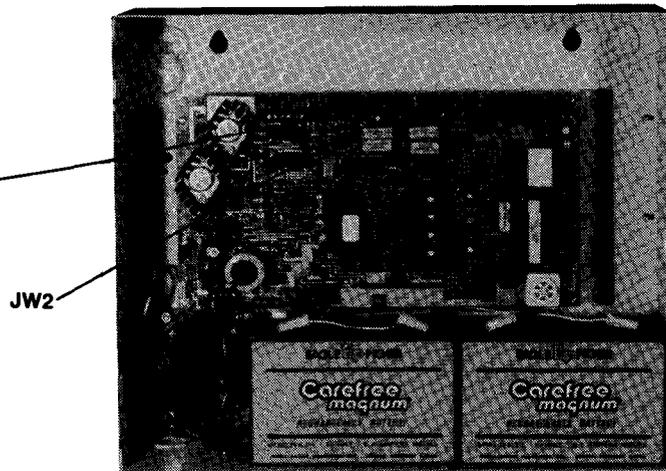

FIGURE 12
3. Connect initiating (zone) circuits to the following terminals (refer to Table 3 and Fig. 12).
4. If the system contains coded manual stations, connect stations to zone 1 and cut jumper JW2 (Fig. 12).